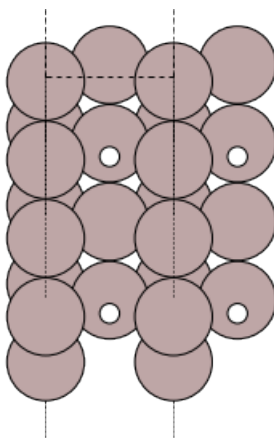

Figure 2: The 2×1 Al(110) slab with H adsorbate created by *ASE*. To clearly see the periodic boundary conditions 2×2 cells are visualized.
We chose a slab with 3 layers only, in order to speed up the calculations, but the real calculations would require a larger amount of Al layers. We use a 1×2 supercell, so the periodic images of the hydrogen atoms may not interact with each other. We added a hydrogen atom in the so-called *longbridge* position, which is in-between the Al(110) rows, as you can see in Fig. 2. Finally, we fixed only the lowest layer of the slab for the geometry relaxation, due to the low amount of layers. Normally, 2-3 layers of the slabs are fixed, during the optimization of the top-most layers